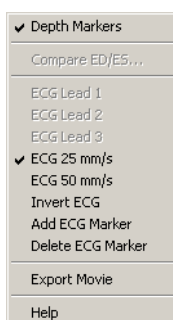

Fig. 31 Display depth marker option
- 2 Choose the Depth Markers option from the global context menu (see Figure 31). The interval between two adjacent depth markers is 1 cm.